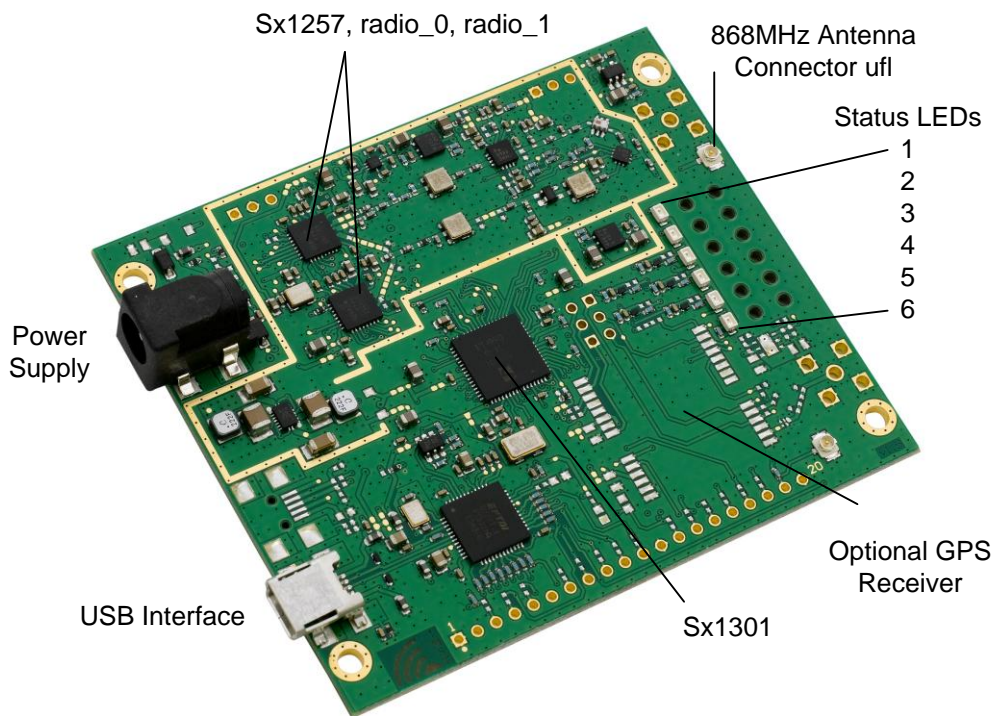

Figure 2-1 Picture of iC880A-USB
0.2	Figure 2.1 updated
Figure 2-1 depicts the printed circuit board of the iC880A. As main interfaces there are the DC –Power Jack and the USB-Connector to a host system that runs the driver software. A SMA connector is supplied in order to connect any suitable antenna to this board. The board offers some LEDs to give a visual feedback of the current operation status of the board. The concrete meaning of the LEDs is software dependant. As default setting the LEDs is: